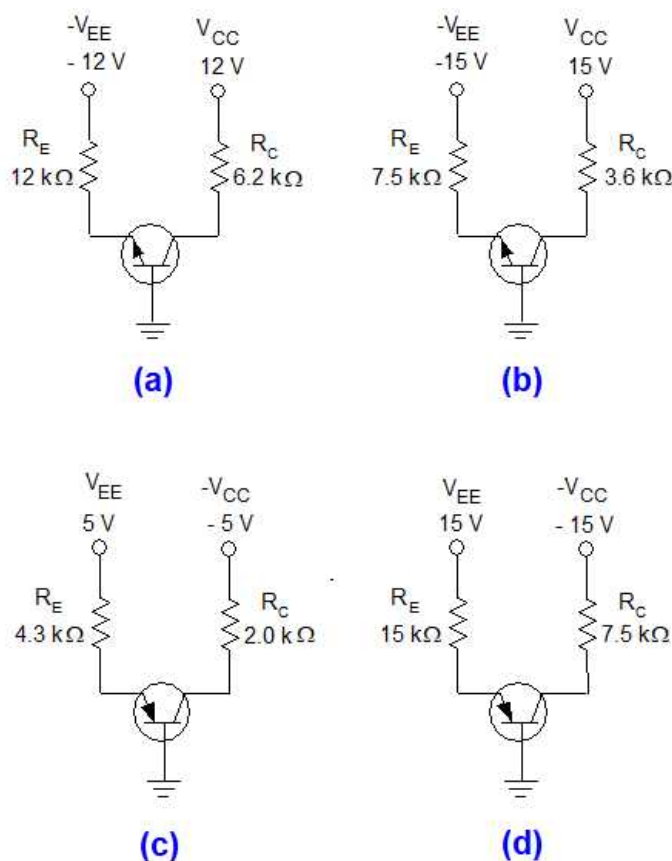

Figure 5-46.
- 5-52 Find the Q-point of the common-base transistor given in Fig. 5-46(a). Specifically, find I_E , I_C , and V_{CB} . Also determine $I_{C(SAT)}$ and $V_{CB(OFF)}$. Indicate the actual conventional current directions on your schematic diagram. The BJT has an α_{DC} of 0.997.
- 5-53 Find the Q-point of the common-base transistor given in Fig. 5-46(b). Specifically, find I_E , I_C , and V_{CB} . Also determine $I_{C(SAT)}$ and $V_{CB(OFF)}$. Indicate the actual conventional current directions on your schematic diagram. The BJT has an α_{DC} of 0.990.
- 5-54 Find the Q-point of the common-base transistor given in Fig. 5-46(c). Specifically, find I_E , I_C , and V_{CB} . Also determine $I_{C(SAT)}$ and $V_{CB(OFF)}$. Indicate the actual conventional current directions on your schematic diagram. The BJT has an α_{DC} of 0.97.
- 5-55 Find the Q-point of the common-base transistor given in Fig. 5-46(d). Specifically, find I_E , I_C , and V_{CB} . Also determine $I_{C(SAT)}$ and $V_{CB(OFF)}$. Indicate the actual conventional current directions on your schematic diagram. The BJT has an α_{DC} of 0.95.